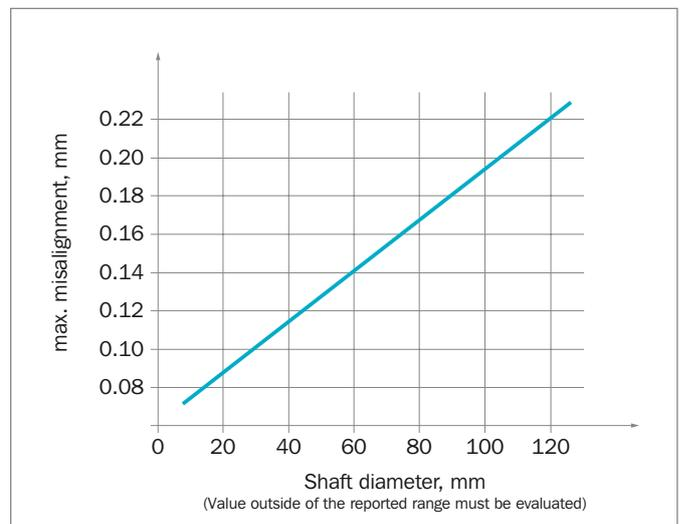

Figure 26: Shaft to bore misalignment
- The maximum assembly and working misalignment must be according to Figure 26